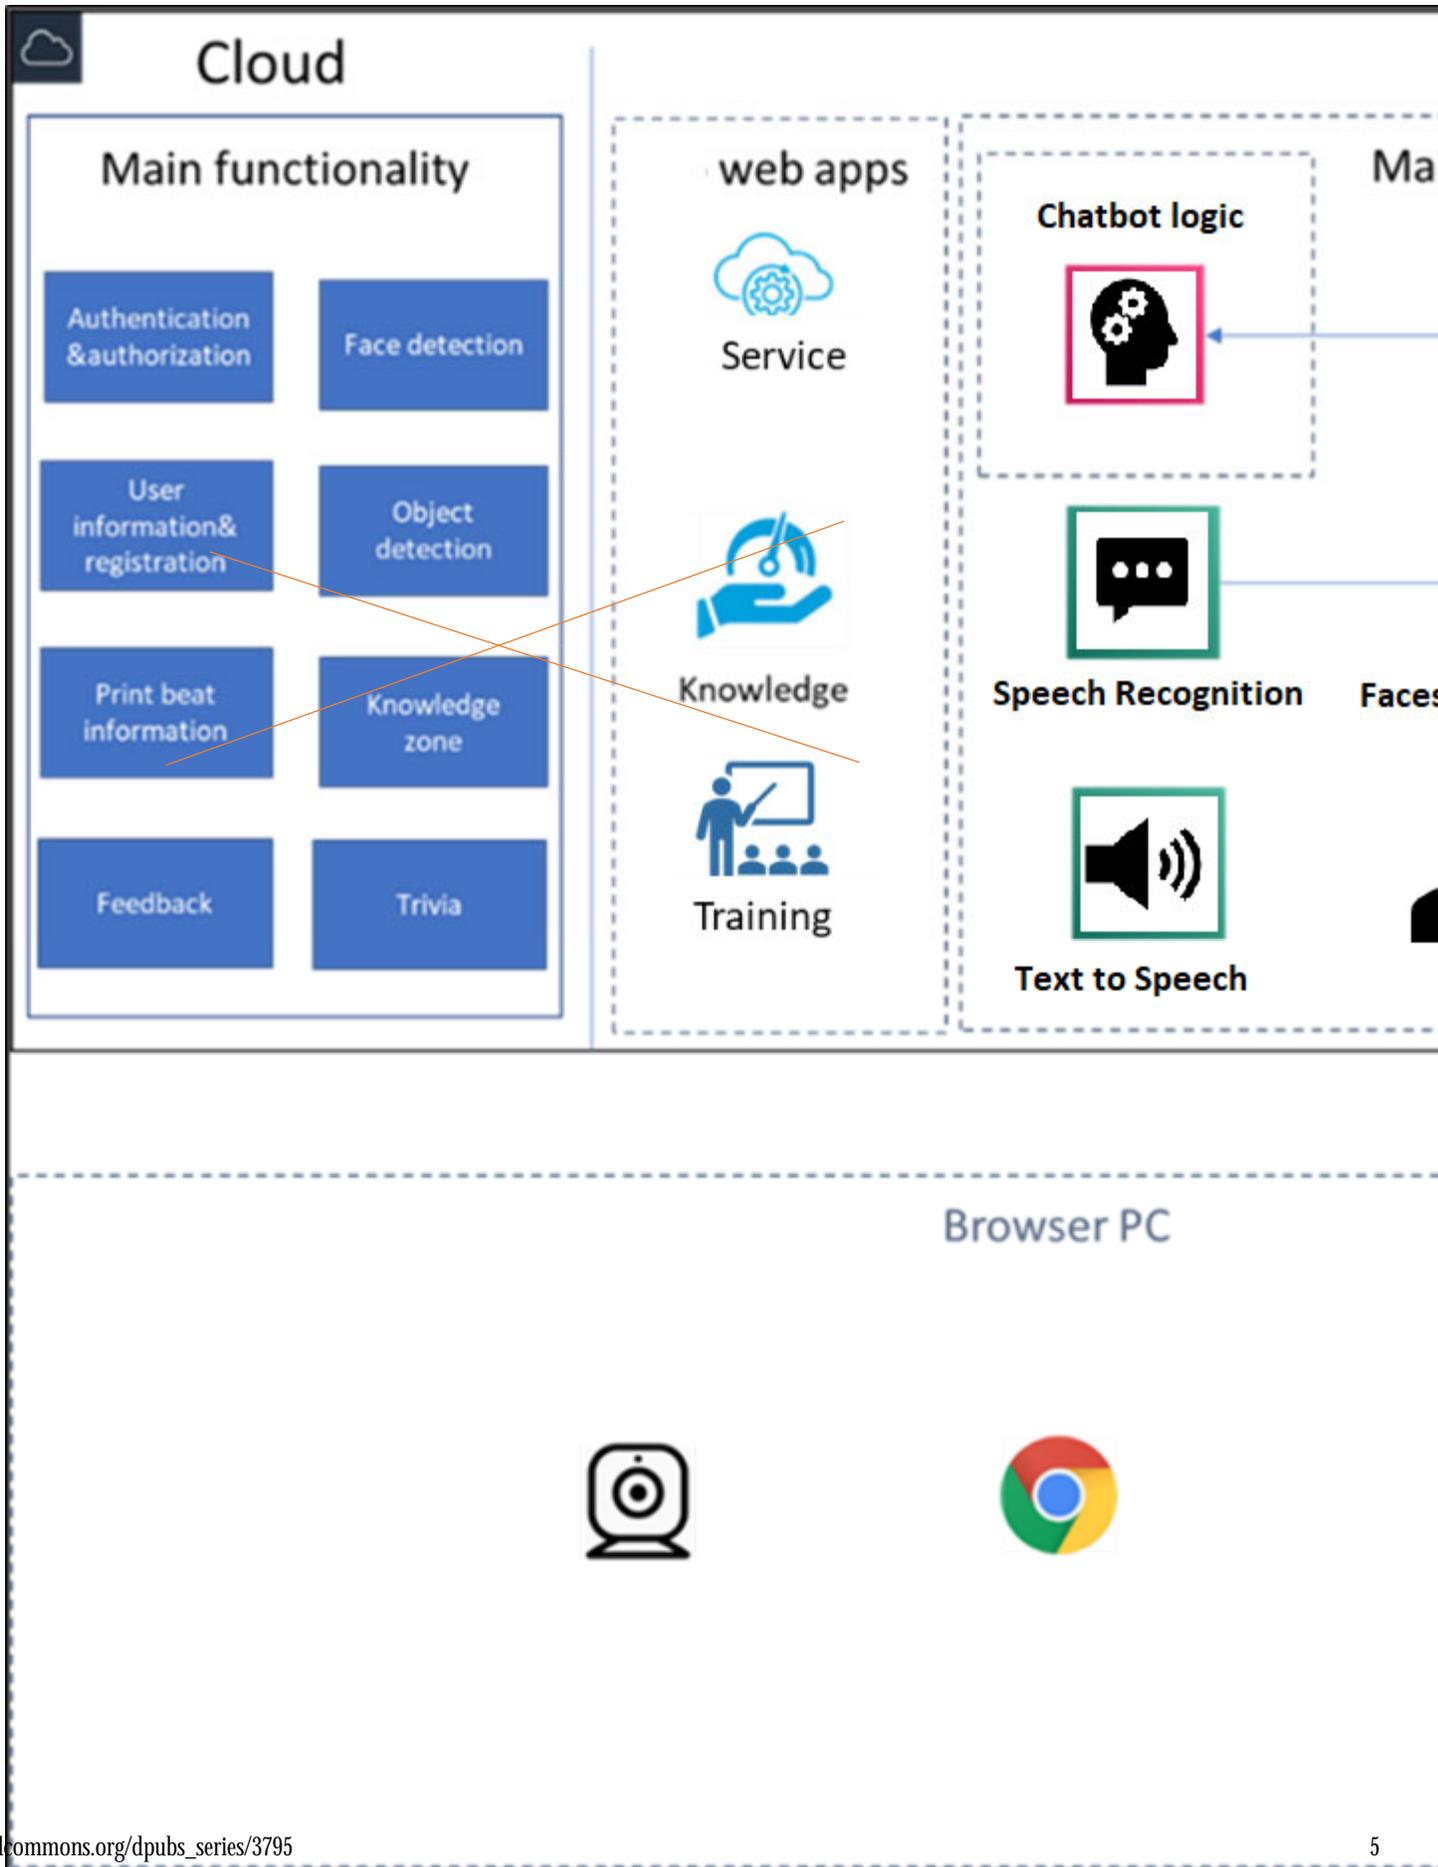

Figure 1: System block diagram
3.2. Main Components: (see attached figure 1)